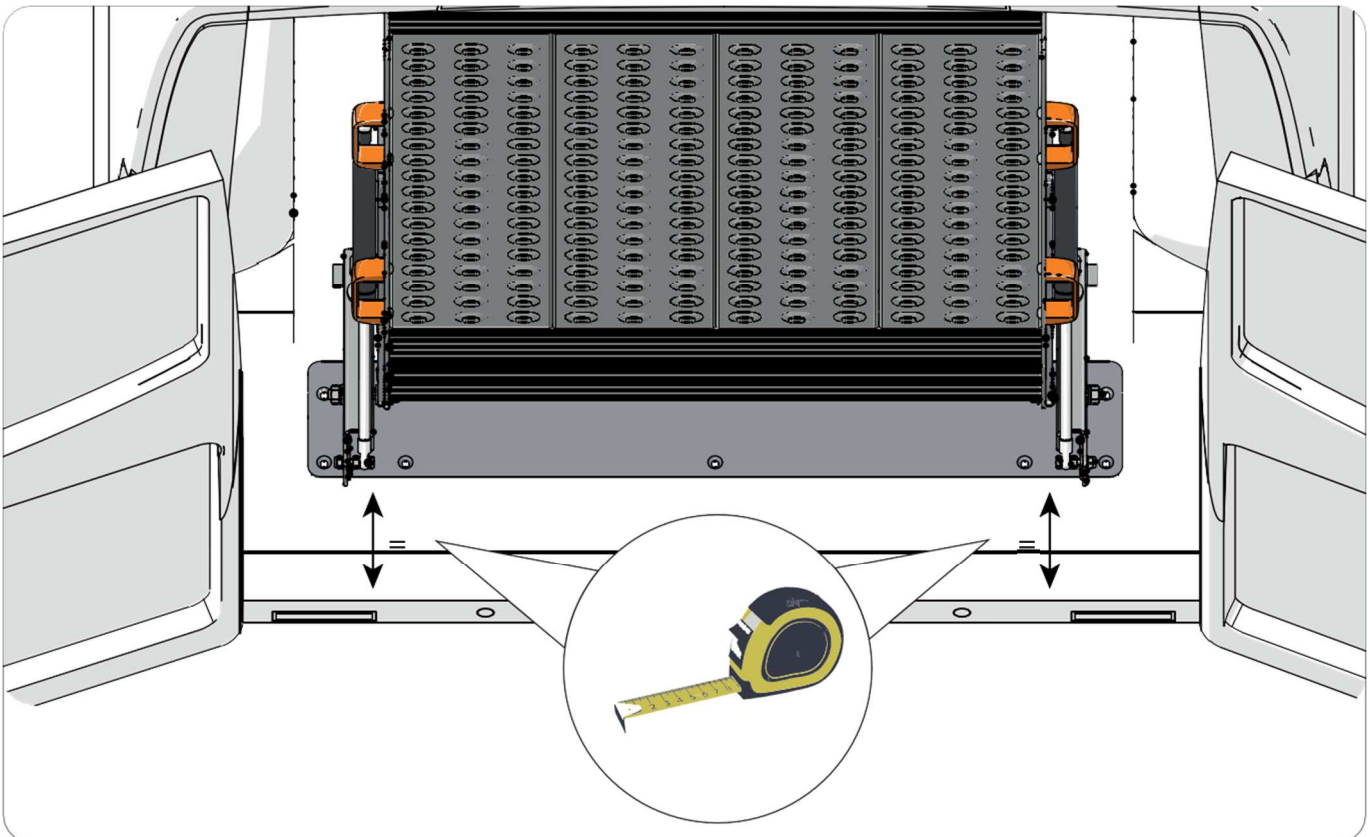

Fig. 2.7
Insert the two brackets (5) at the sides of the ramp base (already in the correct position, see Fig.2.7), as shown.